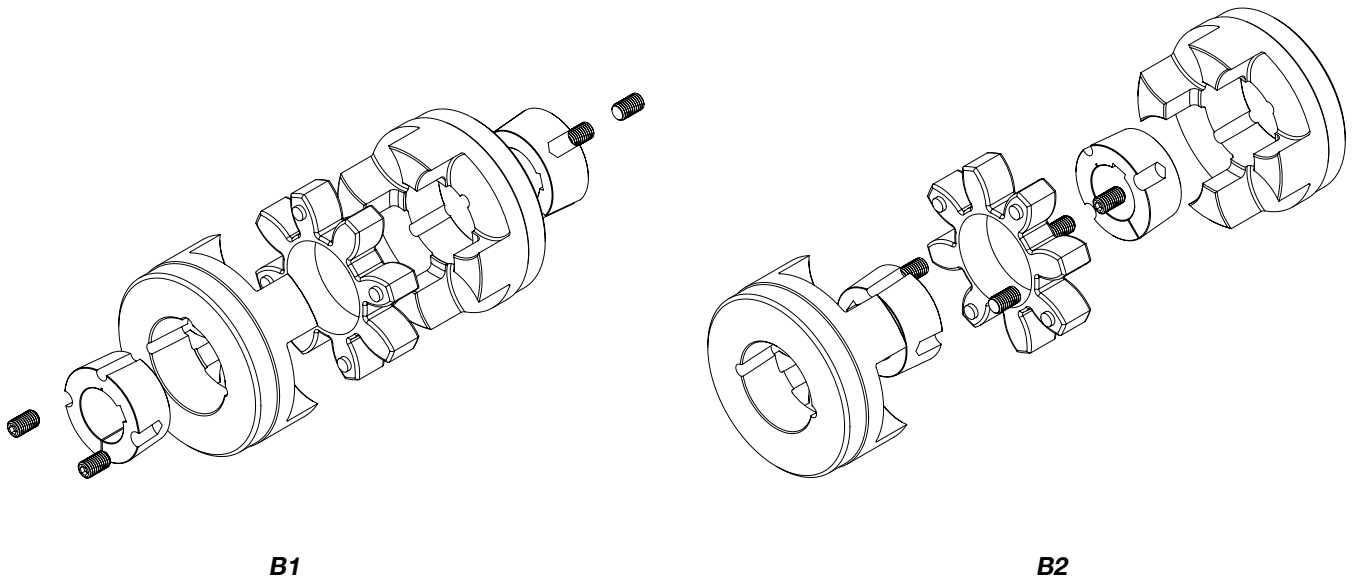

Figure 4-3 - Types of GRB
- 2 hubs (B1 with bush mounting from the outside, B2 with bush mounting from the inside, FIGURE 4.3 - Types of GRB)